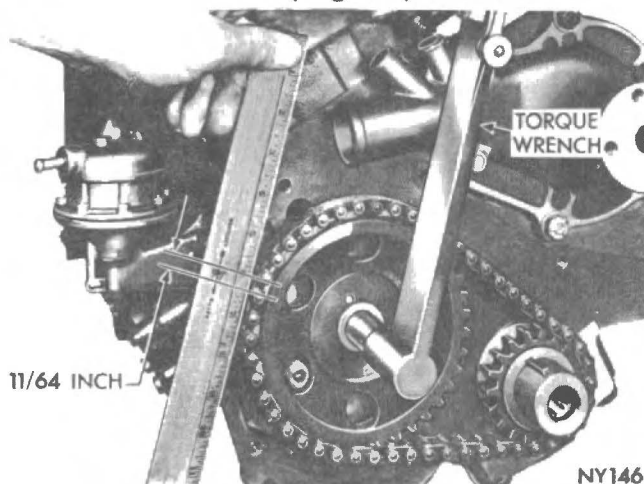

Fig. 20 - Measuring chain stretch.
(3) Holding a scale with dimensional reading even with edge of a chain link, apply torque in the reverse direction 30 lbs./ft. (cylinder head installed) or 15 lbs./ft. (cylinder head removed) and note the amount of chain movement (Fig. 20).